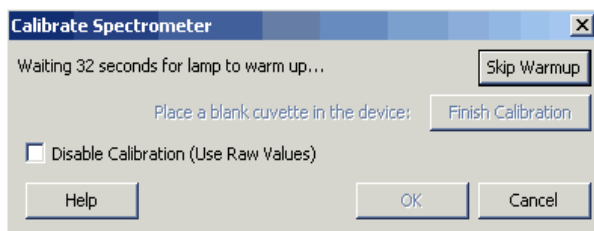

Figure 2. Calibration stores a reference spectrum.
The absorption spectra of HMR and MR^- are given schematically in Figure 2. For two components in solution, the absorbance must be measured at two different wavelengths. The best wavelengths to choose for the analysis are where one form absorbs strongly and the absorbance of the other form is negligible. Examination of Figure 2 reveals that there are no wavelengths where one form, acid or base, absorbs exclusively. For this case, we need to set up two equations in two unknowns, one equation for each wavelength. Call the two wavelengths λ_1 and λ_2 . The absorbance at λ_1 is A_1 and at λ_2 is A_2 . The two measurements then provide two simultaneous equations with two unknowns:
The molar absorbance coefficients are illustrated in Figure 2. The molar absorbance coefficients are determined from standard solutions that contain one component alone. Eqs. 6 and 7 provide two equations in two unknowns. For an unknown solution, the absorbances at the two wavelengths, A_1 and A_2 , are determined and then Eqs. 6 and 7 are solved for the unknown concentrations $[\text{MR}^-]$ and $[\text{HMR}]$ at each given pH.
Figure 2: Absorbance of a solution is the sum of the absorbances of the constituents. Measurements at two wavelengths are necessary to determine the composition of a two-constituent solution if the absorbance bands overlap. The first subscript indexes the wavelength and the second subscript indexes the constituent.
An isosbestic point is defined as the wavelength where two species have the same molar absorptivity. At the isosbestic point the total absorbance of a solution of the two ions is independent of their relative concentrations but is dependent only upon the total dye concentration. The appearance of an isosbestic point is evidence that only two species are involved. Figure 2 shows two isosbestic points. You will use your spectra to determine if there are only two absorbing species in this experiment.
4. To calibrate the Spectrometer, choose Calibrate → Spectrometer from the Experiment menu. The calibration dialog box will display the message: “Waiting...60 seconds for lamp to warm up.” (see Figure 2) The minimum warm up time is one minute. **NOTE: For best results, allow the spectrometer to warm up for at least five minutes.** Following the instructions in the dialog box to complete the calibration, use a cuvette filled about $\frac{3}{4}$ full with the solvent or buffer for your reference, as instructed. Check to make sure the non-frosted, clear sides are in the light path. The cuvette should be inserted all the way through the cell holder. You should feel that the